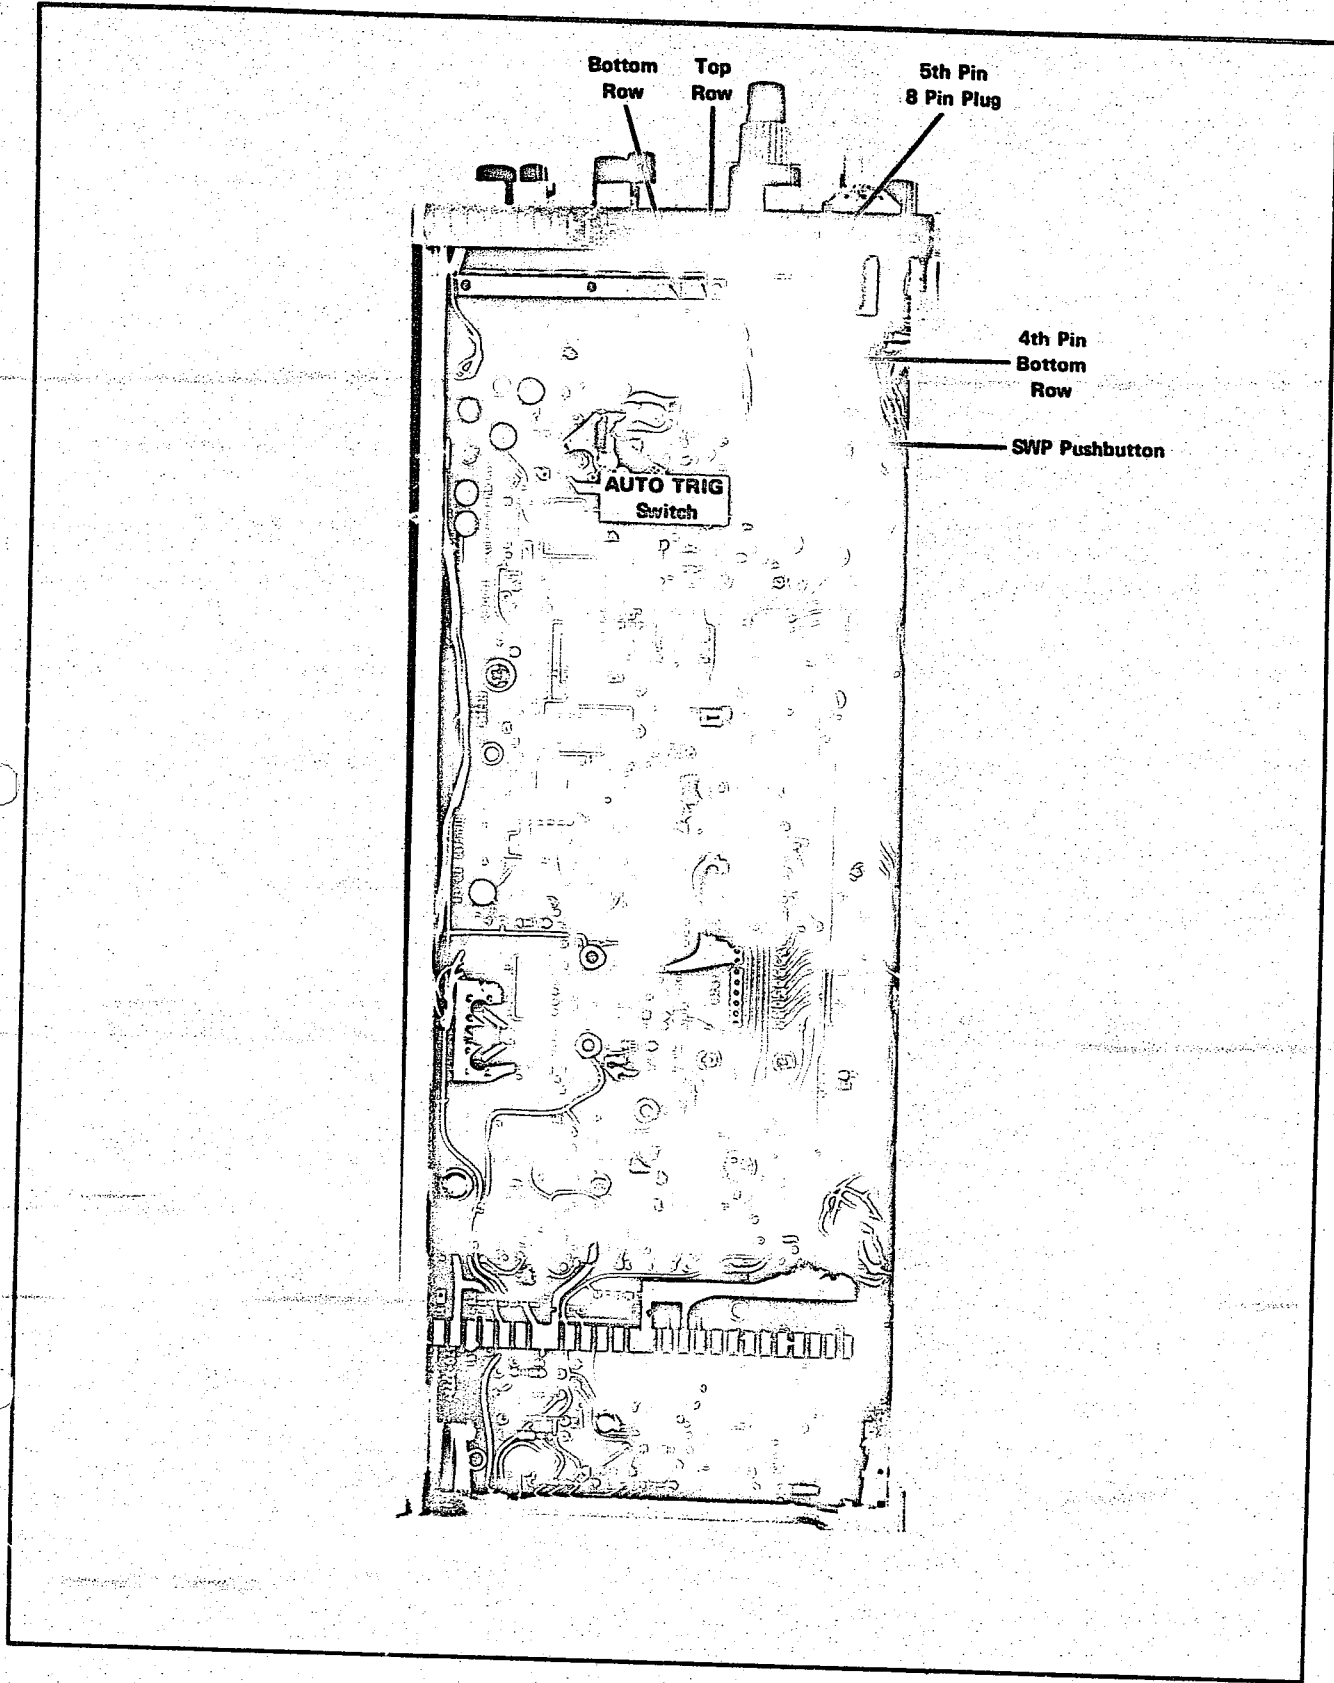
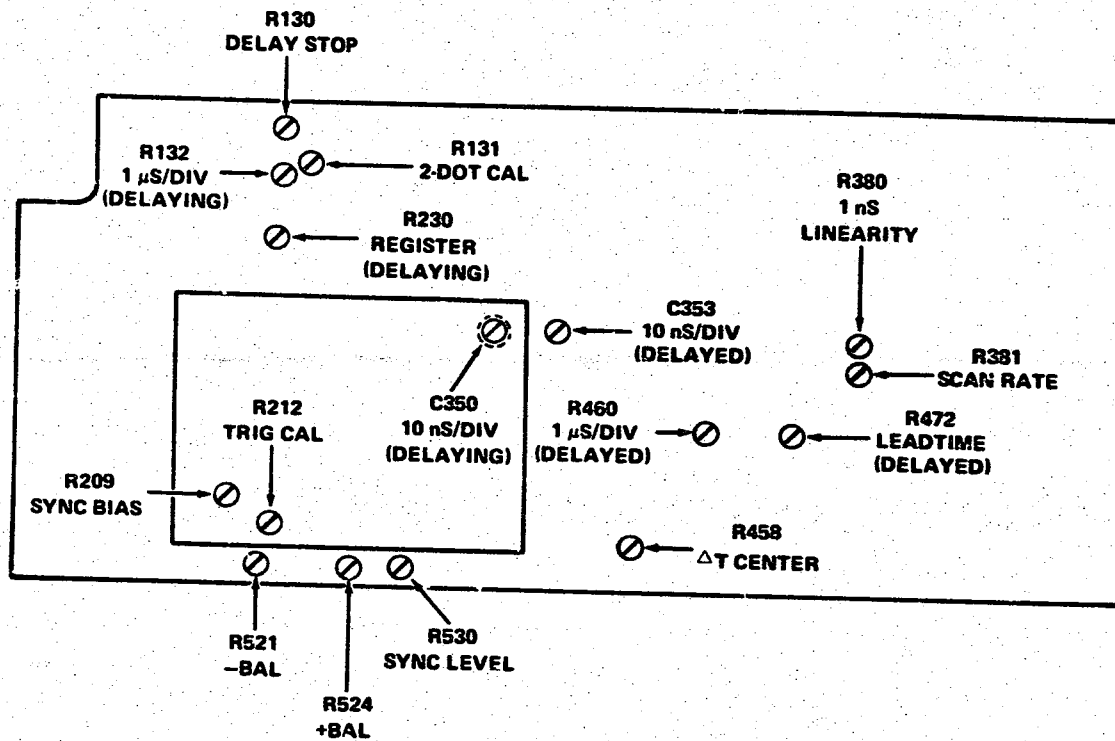

Fig. 7-2. Horizontal Board Test Points.
Fig. 7-3. Triggering and Timing Adjustment Locations.
b. Push the 7S14 HF SYNC button and adjust R212 (see Fig. 7-3) for a display.
d. Touch the 1X probe to pin 1-5 of the Horizontal Board. Pin 1-5 is located just above the AUTO TRIG pushbutton switch. (See Fig. 7-2 - the fifth pin from the front panel is the correct pin.) Adjust the LEVEL control so the free running trace is located on the horizontal centerline of the graticule. If the white dot on the LEVEL control is not located between the 11 and 1 o'clock positions, loosen the control set screw then rotate the control knob and tighten the set screw so the white dot is located at the 12 o'clock position.
- c. Touch the 1X probe to the base of Q202 and adjust R530 (see Fig. 7-3) to set the DC level of Q202 to match the DC level of Q201.
- e. Touch the 1X probe to the base of Q202 and adjust R524 (see Fig. 7-3) so that the DC level is +60 mV above the DC level of Q201.
- h. Touch the 1X probe to the base of Q202 and adjust R521 (see Fig. 7-3) so that the DC level is -60 mV below the DC level of Q201.
a. Set the TRIGGERING LEVEL control completely counterclockwise. Preset R200 (see Fig. 7-3) completely counterclockwise.
e. Touch the tip of the 1X probe to the fourth pin back on the bottom row of pins of the SWP pushbutton (see Fig. 7-2), then adjust R131 (see Fig. 7-3) to position the trace (displayed by the 7A13) on the horizontal centerline of the mainframe graticule.
Adjust R130 (see Fig. 7-3) so that the left-hand dot is at the zero graticule line.
c. Adjust R132 (see Fig. 7-3) to set the 2nd (right-hand) dot on the ninth time marker in the same location as the 1st dot is located on the first time marker.